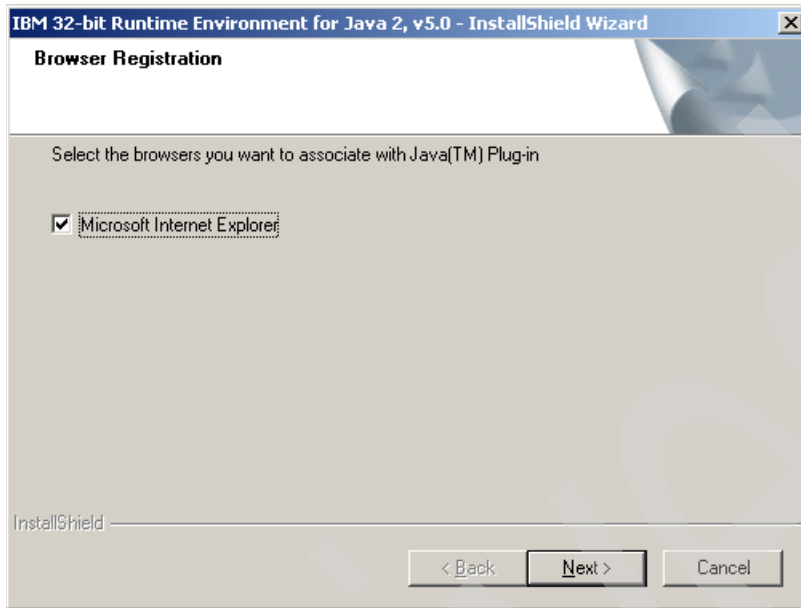

Figure 6-7 Browser Registration window
6. The Browser Registration window (Figure 6-7) is displayed. Select a browser to be associated with EKM. Click **Next**.